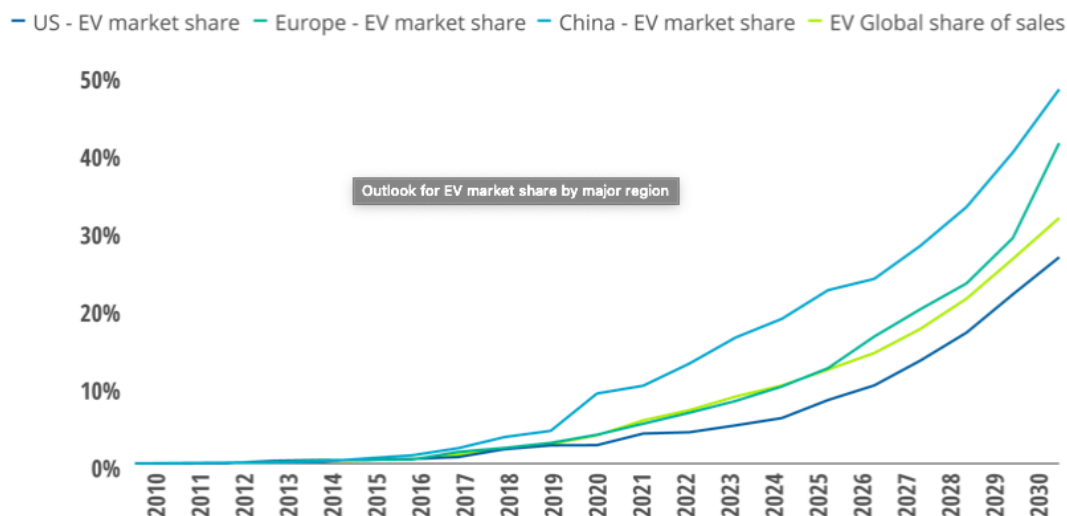

Figure 1.1: EV market trend[2].
Based on different researches, the electric machine market is increasing continuously every year. The forecast expects growth from an estimated USD 113.3 billion (2020) to USD 169.1 billion in 2026 [1]. The number of electric cars (EV) is on course to increase from 11million vehicles to 145million by the end of the decade. As shown in Figure 1.1, the EV market is increasing drastically in the main region. A report by the International Energy Agency has found that if governments agreed to encourage the production of enough low-carbon vehicles to stay within global climate targets there could be 230million electric vehicles worldwide by 2030 [1].